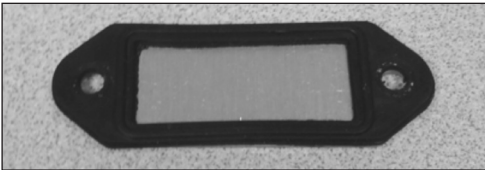

Figure 9.25 - Gasket installed on temperature probe cover
12. Place a new gasket onto the TC probe cover as shown in Figure 9.25 and attach the cover by using a 1/8" Allen wrench to screw the two button head cap screws. Torque screws to 10-12 inch pounds.